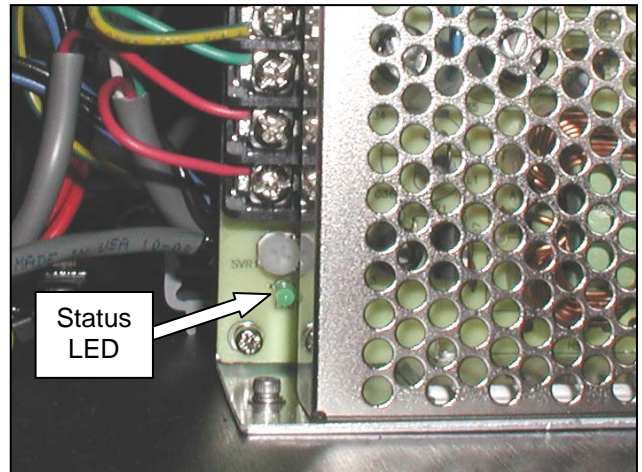

Figure 3-24. Power Supply Status LED
9. Check that the Green Status LED is illuminated. (Figure 3-24) If it is, you may proceed to step 13.